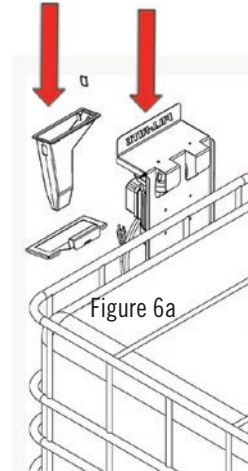

Figure 6a
6. Secure to cage with included tie strap (Figure 6a).
7. Insert Nozzle Reservoir into Nozzle Bracket and snap into opening. Add water to reservoir to prevent urea crystallization in nozzle (Figure 6a).